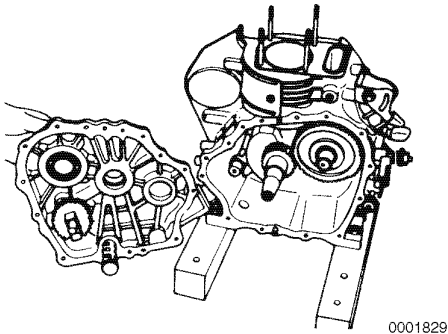

Figure 8-39
3. Remove the crankcase cover (**Figure 8-39**) and oil pump assembly.